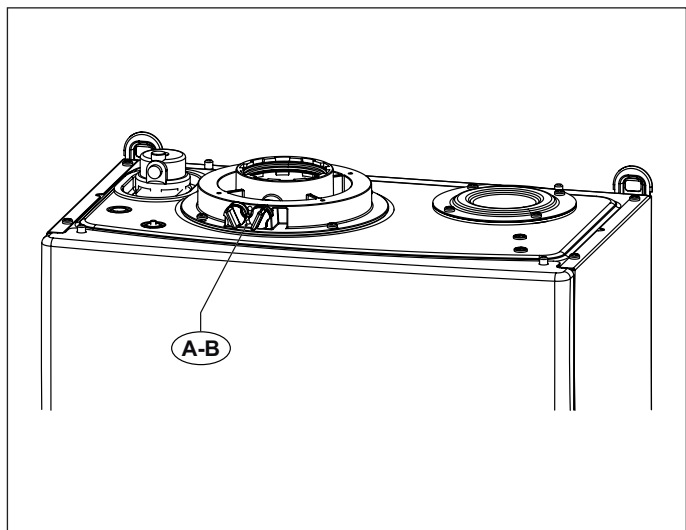
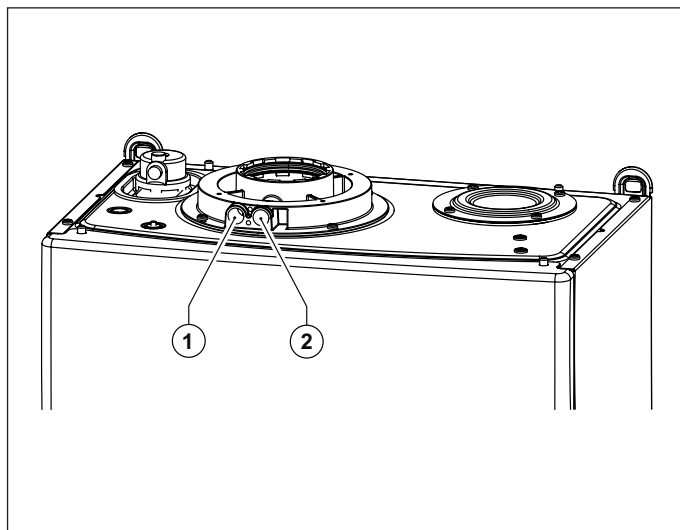

Fig. 14 Plugs position
Fig. 15 Hole position
The boiler is equipped with a tower allowing for air intake/flue gas venting pipe connection (see Fig. 14 Plugs position and Fig. 15 Hole position).
The tower is designed with two pre-arranged openings directly accessing air and flue gas ducts (see Fig. 15 Hole position).
Remove caps **A** and **B** from the pre-arranged openings on the tower, before starting combustion checking procedure (see Fig. 14 Plugs position).
- assess combustion air from opening **1** (see Fig. 15 Hole position).
- assess flue gas temperature and CO2 from opening **2** (see Fig. 15 Hole position).